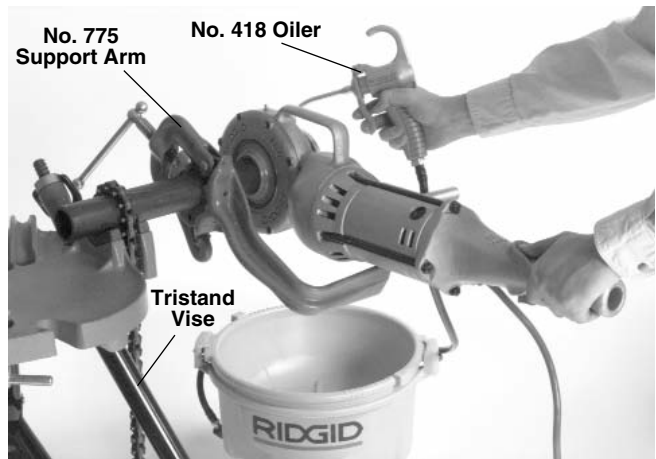

Figure 4 – Threading 2" Pipe With Power Drive Positioned On Left Side Of Vise
3. Be sure the 418 Oiler is properly filled with RIDGID Thread Cutting Oil. Position the oiler in front of the vise (Figure 4).
4. Position No. 775 Support Arm on pipe so end of tang is in line with end of the pipe (Figures 4 & 5). Make sure jaws squarely contact pipe and tighten handle firmly to prevent the slipping of the jaws.
**▲ WARNING** To avoid serious injury, make sure Power Drive is correctly positioned on support arm (Figures 4, 5 & 6). For right hand threads, Die Head will rotate clockwise (looking at the face of the Die Head). Forces developed by the threading torque will be in the opposite or counter-clockwise direction.